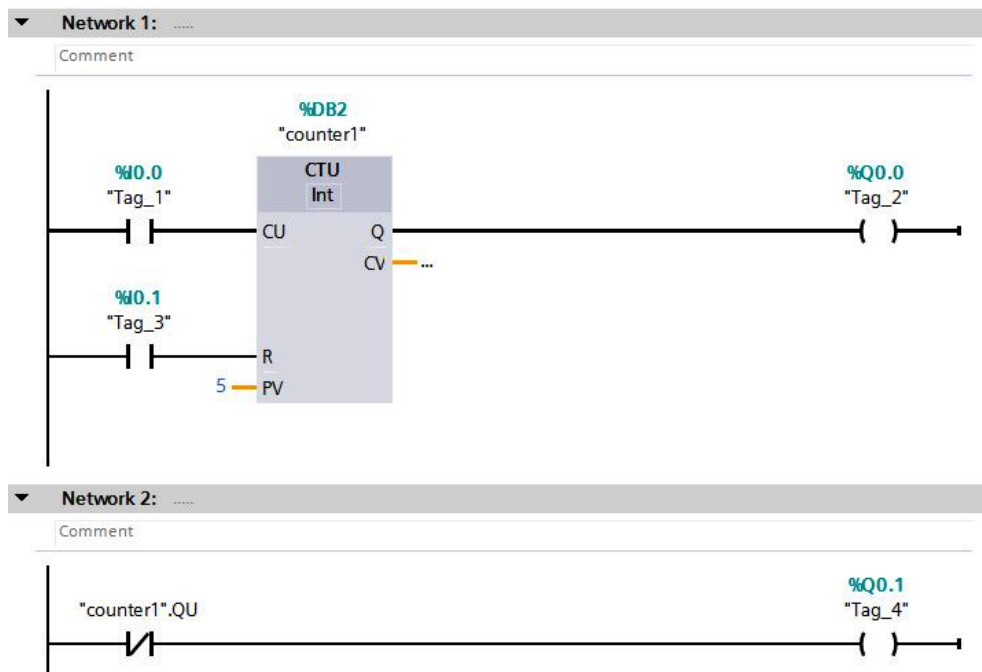

Figure 9.44 – Using the counter instruction – the counter's output used to activate or deactivate another output
In the preceding program (*Figure 9.44*), when I0.0 is not triggered, the counter will not count. Q0.0 will be de-energized and Q0.1 will be energized (ON) since a normally closed contact is used at the input side of the network (network 2). When I0.0 is triggered five times, Q0.0 will be ON, while Q0.1 will be OFF because the counter's output is energized (high) and that will open the normally closed contact used in network 2.